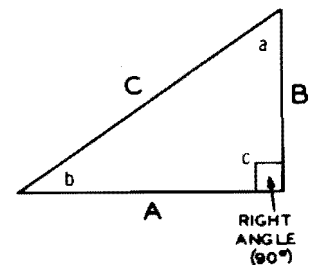

Figure A2
3. (180) One of the most commonly encountered triangles is the right triangle. A right triangle is one that contains one 90° angle. Figure A2 shows a typical right triangle.
4. (right) In Figure A2, the right angle is identified by the letter _____.
6. (90) In order for the sum of angles a and b to be equal to 90° , each must be less than 90° . Any angle less than 90° is called an acute angle.
8. (two) Angle c in Figure A2 is a right angle while angles a and b are acute angles.
In Figure A2, angle a = 35° . Angle b = _____ degrees.
The sides forming the right angle in Figure A2 are _____ and _____.